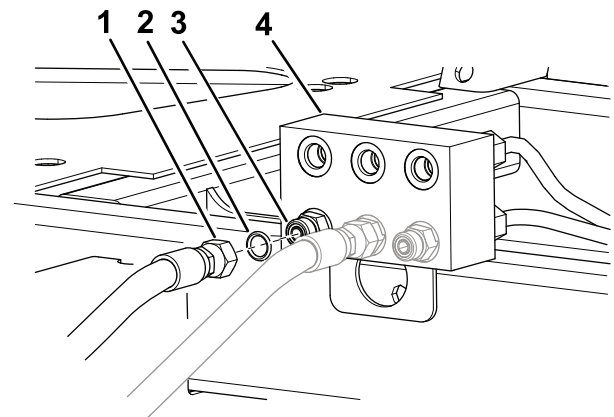

Figure 7
5. Place a drain pan under the junction manifold (Figure 7).
6. Disconnect the hydraulic hose from the lower left fitting on the junction manifold (Figure 7).